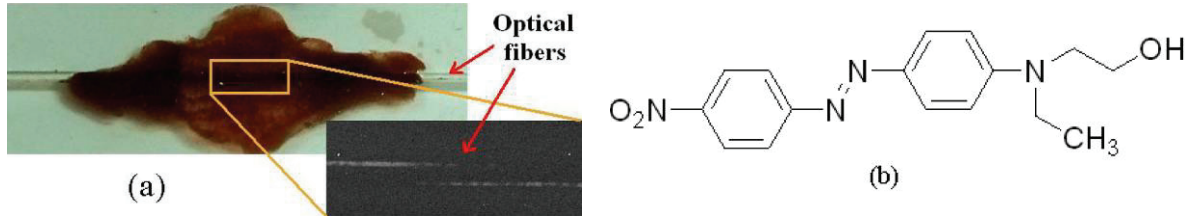

Fig. 1. (a) Photograph and scanning electron microscopy (SEM) image of a coated tapered fibers (DR1-PDMS), (b) structure of DR1.
The most commonly used polymeric matrices for azobenzenes as hosts, are poly(methyl methacrylate) (PMMA) and polystyrene (PS)^{2,5,6}. However, in our experiments, we used poly(dimethylsiloxane) (PDMS) due to its adhesion to SiO₂⁷. The azobenzene used as guest was Disperse Red 1 (DR1, Fig. 1.b) purchased from Sigma-Aldrich; no further purification process was done before incorporating the DR1 into the host matrix.
Fig. 1.a shows a tapered device coated with the DR1-PDMS system uniformly. The PDMS samples were prepared using Sylgard 184 (Dow Corning) and the mixture ratio of base/curing agent was 92%/8% in weight. DR1 was dissolved in THF and then added to the PDMS in a ration PDMS/DR1 = 91%/9% in weight. The mixture was next poured onto a glass substrate used as a mold for the polymer and for placing the couplers and the tapered fibers. Finally, the coated devices were heated at 80°C for 4 hours and left for drying at room temperature.